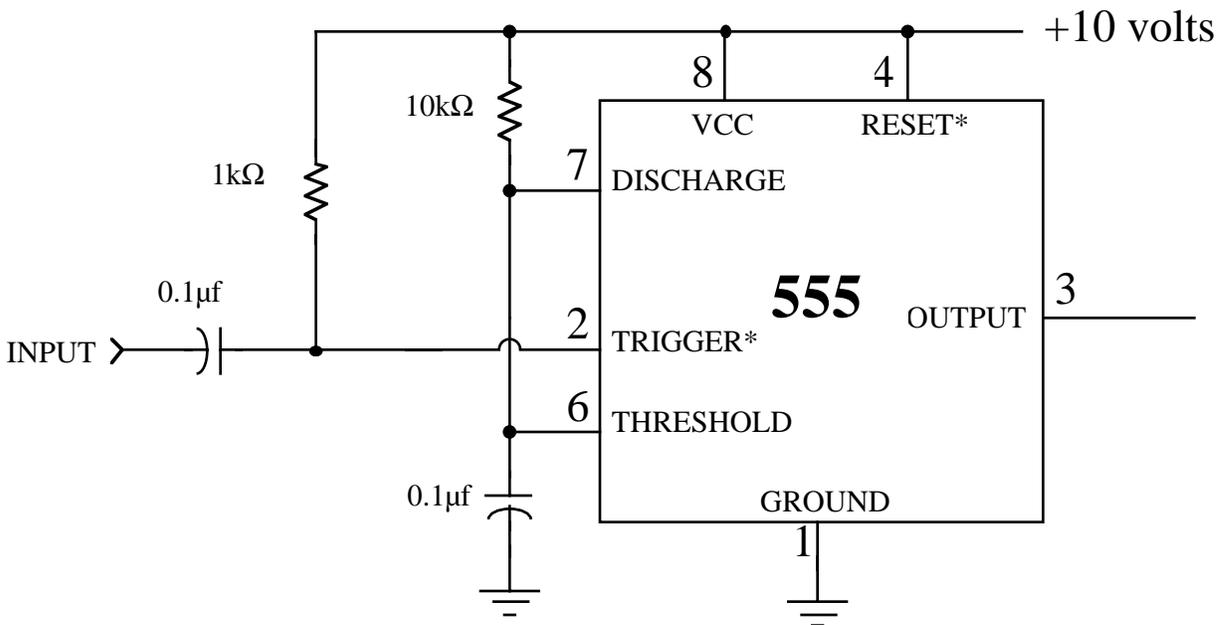

Figure 4. 555 one-shot
A very useful circuit is a one-shot, also called a monostable. Basically a one-shot produces a longer output pulse in response to a short input pulse. These circuits have important applications in digital circuits where they can provide signal delays and can “stretch” very short pulses into longer pulses to operate computer logic more reliably. These circuits also are used in digital communications, biomedical engineering, and any other application where you need to clean up a digital signal in the presence of noise. A typical one-shot circuit using the 555 is shown in Figure 4. This circuit is exactly the same as the astable oscillator except that pin 2 is no longer connected to pin 6.
- (a) Construct the 555 monostable shown in Figure 4. Note that you only need to make a few small changes from your previous circuit. Connect the trigger input (Pin 2) to the H-P function generator. Adjust the generator output for a 4% duty cycle (a very narrow pulse) at about 100 Hz. See the note below for how to do this!
- (a) Modify your one shot circuit from Figure 4 by replacing R_A with a 22k Ω resistor and replacing R_B with a short circuit (a wire).